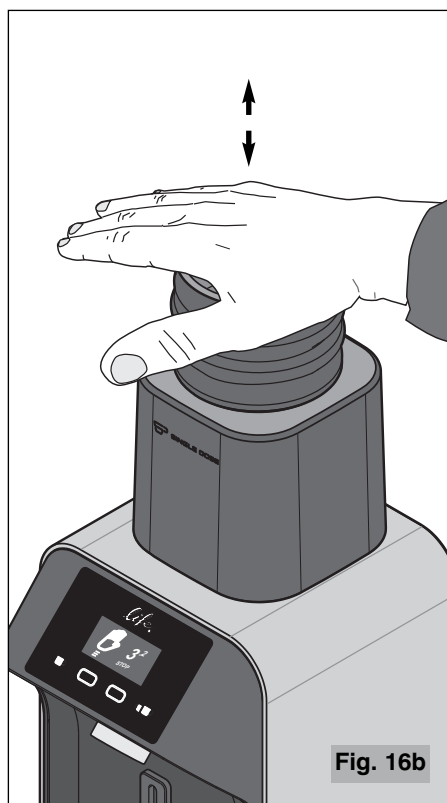

Fig. 16b
- 8 After all the coffee beans have been ground completely, tap the bellows (16 Fig. 3) with your hand, making sure your palm fully covers the opening (see Fig. 16b), to let all the ground coffee fall out.